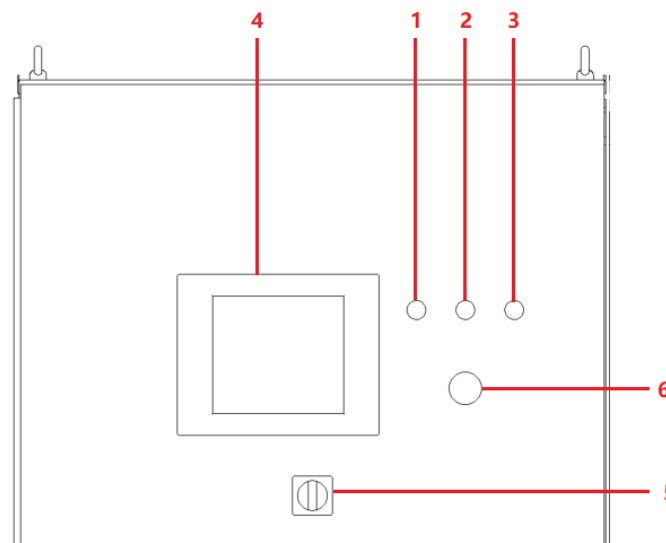
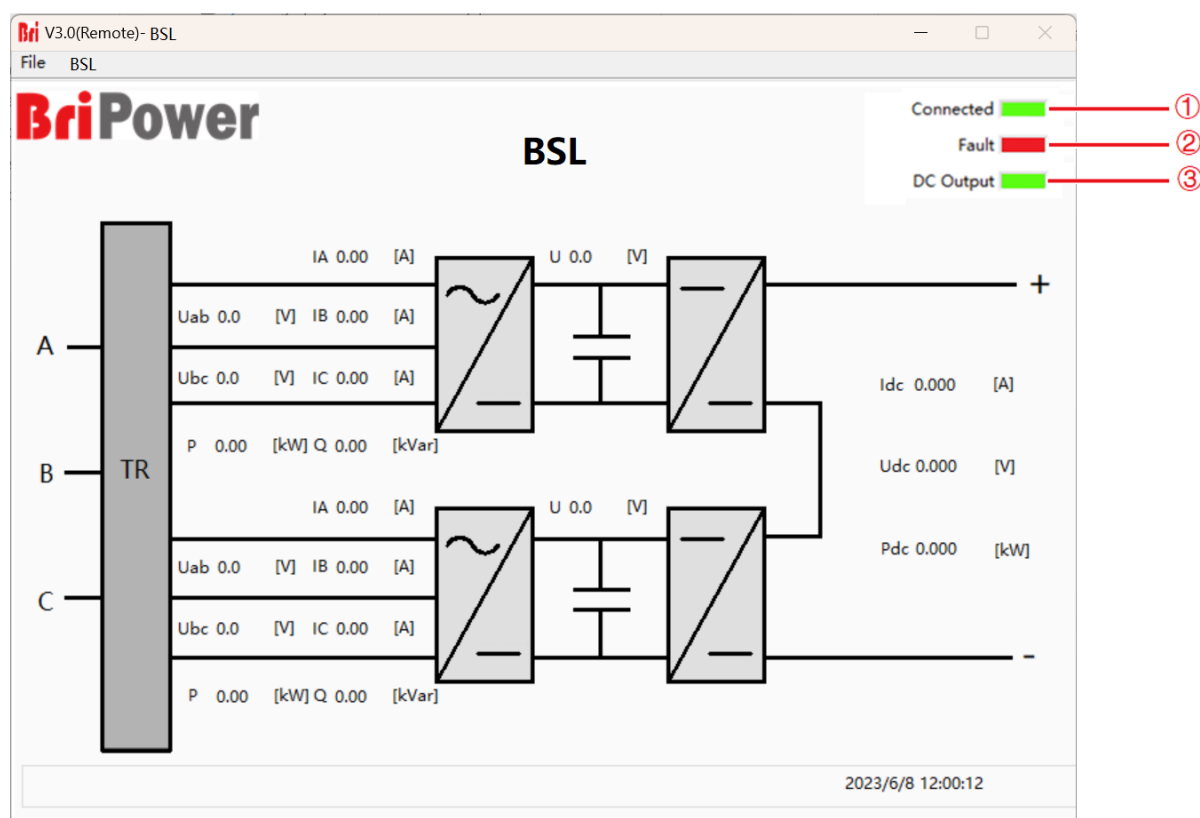

Figure 3-3 Front Panel
Figure 5-1 Main panel
Turn clockwise to close the control switch on the front panel (figure 3-3: 5), the power supply is standby.
BSL series provides GUI software, which is installed on the front touch screen using the windows OS. (the software can also be installed on the control PC connected to the power supply). A few seconds after the power supply is initialized, the control unit and touch screen begin to work, the power supply is standby. If the power supply communication is normal, the white light (Figure 3-3①) and the “connected” green light (Figure 5-1①) is always on. All functions and parameters can be accessed through the TFT-Touch panel or GUI software to set up and run.